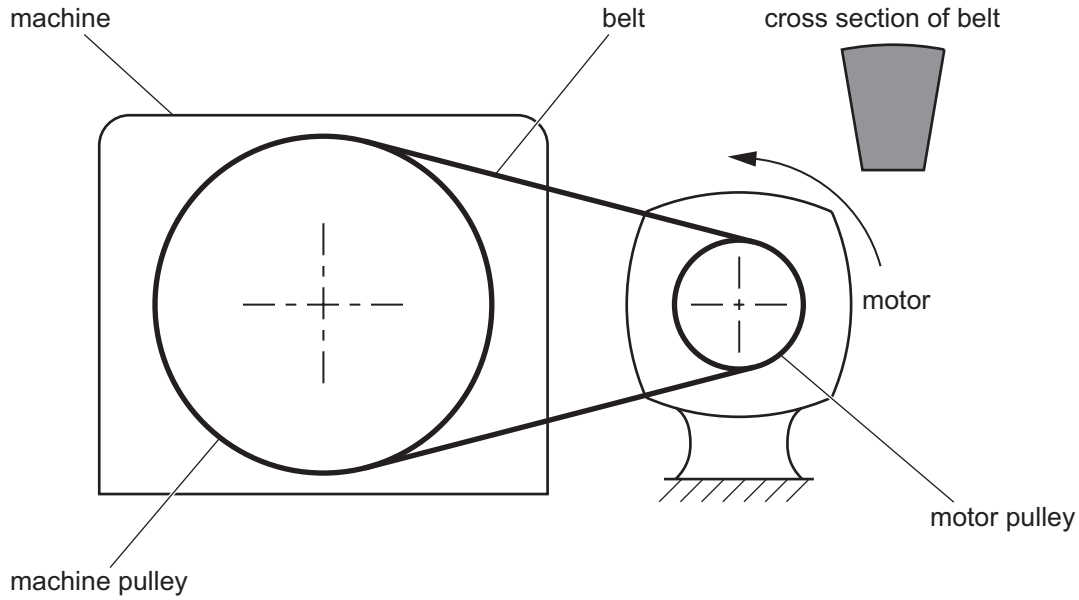

Fig. 2
3 Fig. 2 shows a belt and pulley system which is used to transmit power from a motor to a machine pulley.
- (iv) Mark on Fig. 2 the direction of motion of the machine pulley. [1]